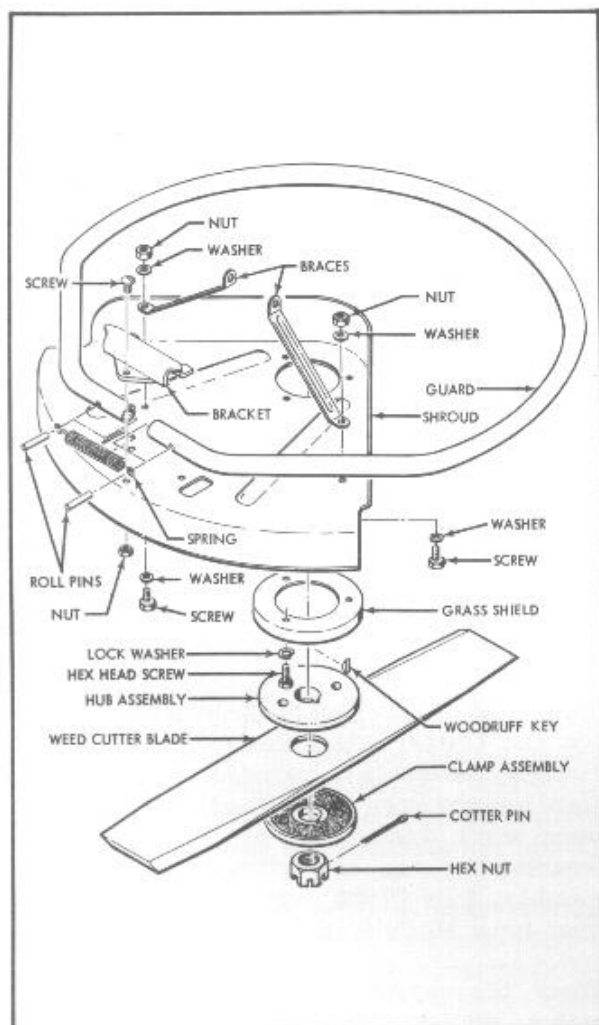

Figure 14. Installation of Weed Cutter Kit 62045
1. Assemble the Shroud Assembly onto the Guard Assembly with the Bracket, three 10-24 x 3/8-inch long screws (P/N 100415), and three 10-24 hex nuts (P/N 101191). (See Figure 14.) Place the assembled parts on the gear housing drive shaft.
3. Mount the two Shroud Braces on the Shroud Assembly with two 1/4-20 x 1/2-inch long screws (P/N 100474), four plain washers (P/N 100005), and two 1/4-20 hex nuts (P/N 103242). See Figure 14. Attach the Shroud Braces to the flanged clamp on the gear housing by utilizing the screw and nut already on the clamp.